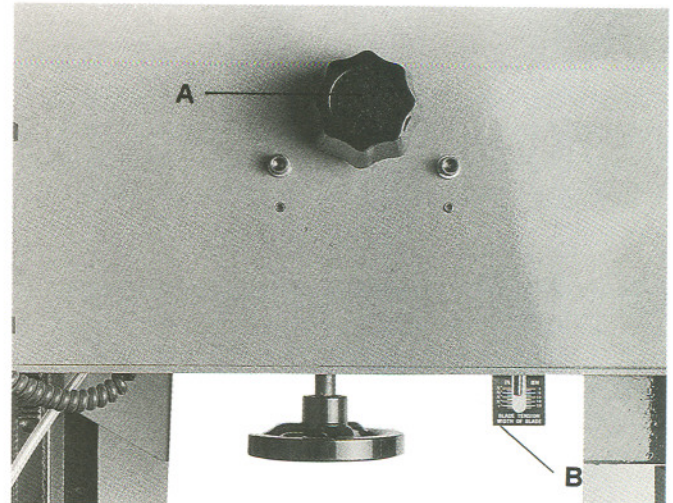

Fig. 10
- Use the blade tension indicator (B, Fig. 10) as reference only. Blade should be tensioned using the finger pressure method.
- Turn blade tracking knob (A, Fig. 10) clockwise to track blade toward front of blade wheel.